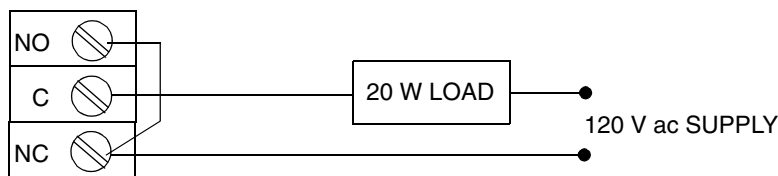

Figure 16. Alarm Contact Reconditioning Circuit
2. Connect a load of 20 W or more as shown in Figure 16 so that both NO and NC contacts are exercised.